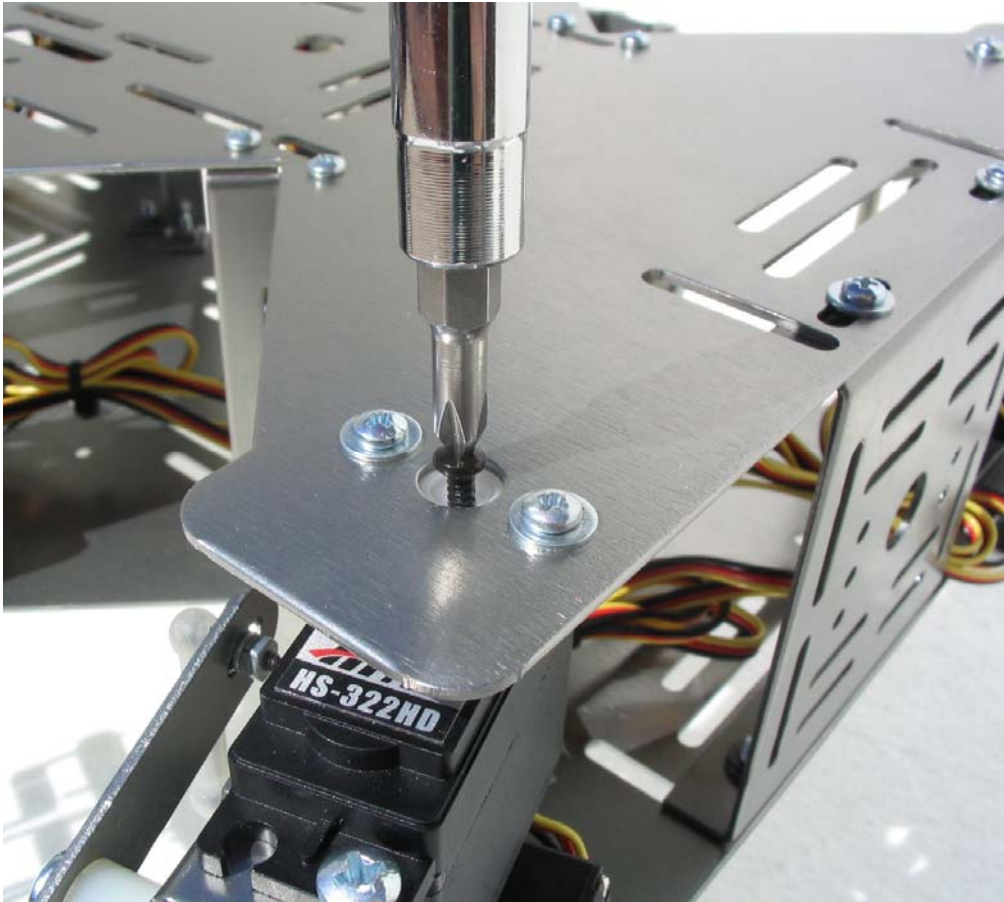

Figure 34 – Securing the leg assembly
5. Once the leg is set correctly, secure the leg using the stock servo screw as shown in Figure 34.